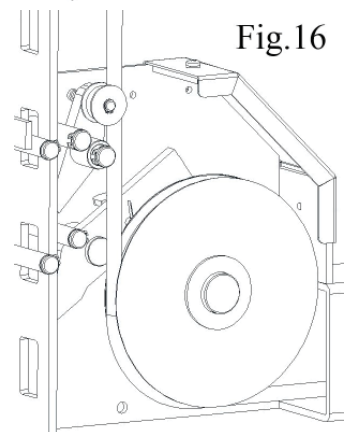

Fig.16
- Make sure the cables are routed correctly as shown in the figure 16 and make sure that cables on the safety rollers.